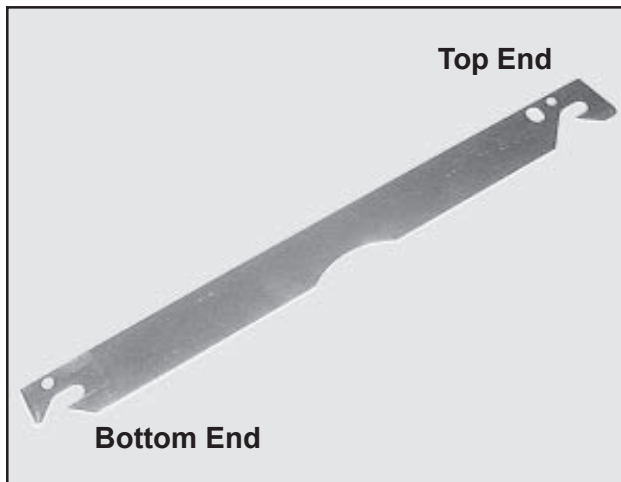

Figure 27. Latch Connector
7. The ends of the latch connector are different (Figure 27). With the top end up, mount the latch connector to the L-brackets and secure it with the screws removed earlier. **Note:** The latch connector should be mounted outboard of the L-brackets (away from the center of the cage).